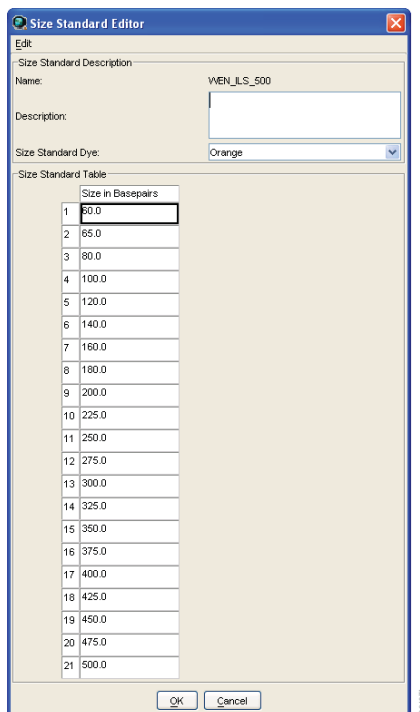

Figure 18. The Size Standard Editor.
5. Enter a detailed name, such as “WEN_ILS_500”, in the Size Standard Editor (Figure 18).